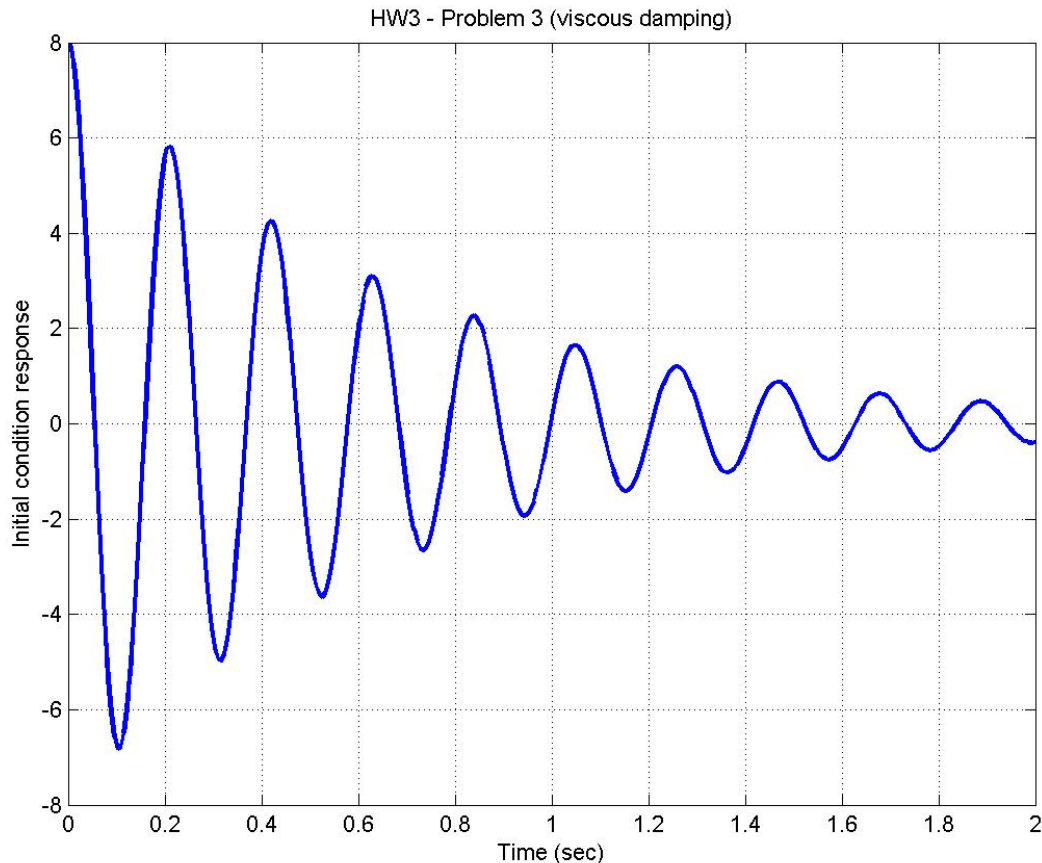

Figure 4a – Step response for a system with viscous damping.
a) Figure 4a shows the step response of a spring-mass system where $m=1\text{kg}$ and $k=900\text{ N/m}$. The EOM is: $m\ddot{x} + b\dot{x} + kx = 0$, where losses are due to linear, viscous damping.
ii) Using MATLAB, produce a plot of the approximate exponential decay envelope bounding the response in Figure 4a. For this system, what are: the time constant of the decay envelope, ω_n , and ζ ?